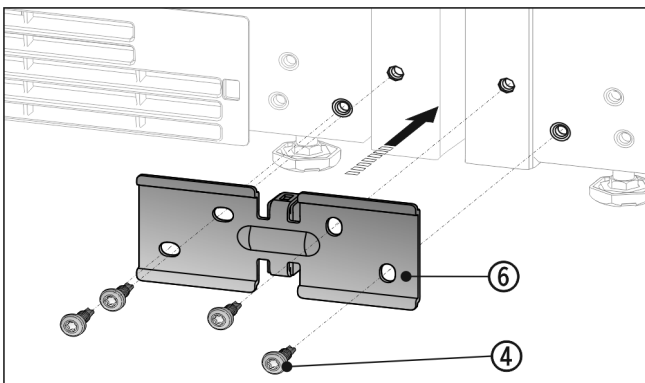

Fig. 15
- ▶ Slide the bracket Fig. 15 (6) on with the spacer between the appliances and screw in loosely with the 4 screws Fig. 15 (4).